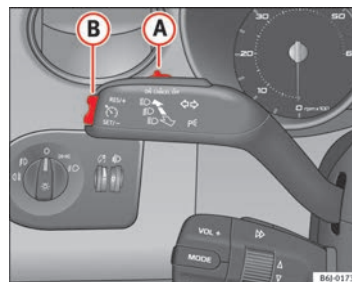

Fig. 113 Turn signal and main beam headlight lever; switch and rocker switch for the cruise control
- Press the upper part **RES** of the rocker switch ⇒ Fig. 113 **(B)** to increase the speed. The vehicle will continue to accelerate as long as you keep the rocker switch pressed. When you release the switch, the new speed is stored.
Cruise control is switched off if you reduce speed by depressing the brake pedal. Reactivate the control by pressing once on the upper part of the rocker switch **RES+** ⇒ Fig. 113 **B**.